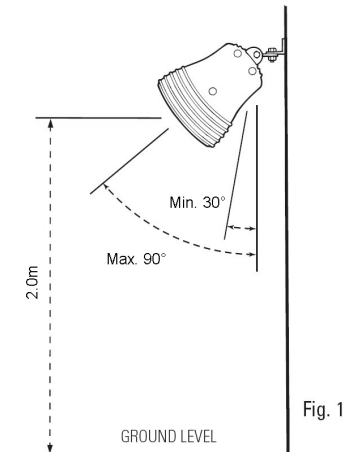

Fig. 1
- When mounting the Rio horizontally, do not position the heater at an angle more than 90° and less than 30° as shown in Fig. 1.